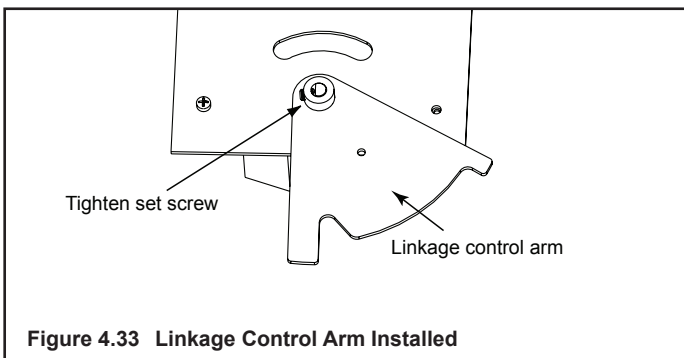

**Figure 4.33 Linkage Control Arm Installed**
9. • Place linkage control arm over timer shaft and tighten set screw, Figure 4.33.